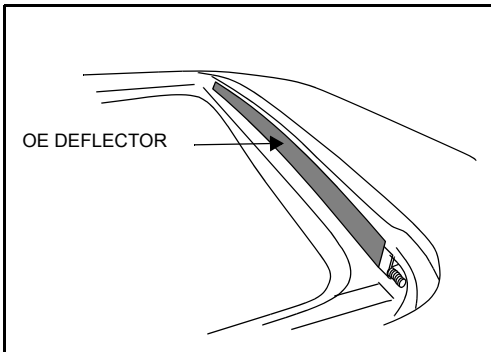

Figure 2.
2. Locate the vehicle OE Deflector at the front of the sunroof opening, this is the little flap that raises when the sunroof glass is opened as shown in Figure 2.